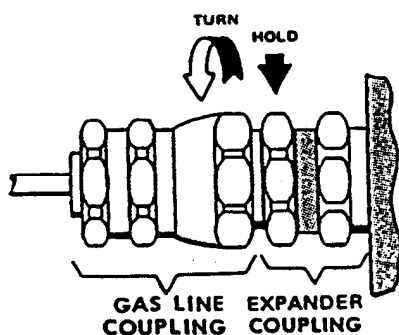

Figure 4 Break Gas Line Connection from Cold Head
1. Always use two wrenches. Use one wrench to hold the cold head coupling. Use the second wrench on the gas line coupling nut to break the connection. See Figure 4.